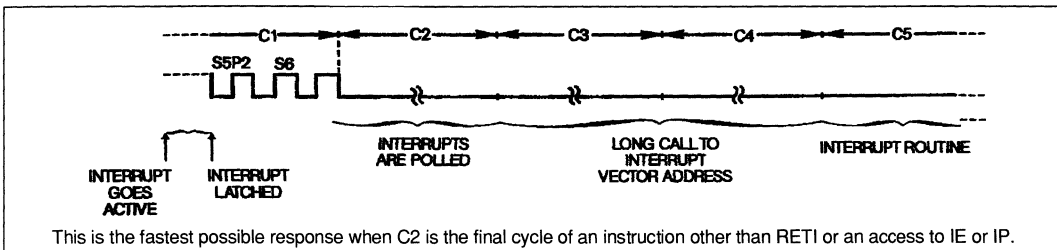

Figure 37 : Interrupt Response Timing Diagram.
The polling cycle/LCALL sequence is illustrated in figure 37.
- Note that if an interrupt of higher level goes active priority to S5P2 of the machine cycle labelled C3 in figure 37 then in accordance with the above rules it will be vectored to during C5 and C6, without an instruction of the lower priority routine having been executed.
The $\overline{INT0}$ and $\overline{INT1}$ levels are inverted and latched into IE0 and IE1 at S5P2 of every machine cycle. The values are not actually polled by the circuitry until the next machine cycle. If a request is active and conditions are right for it to be acknowledged, a hardware subroutine call to the requested service routine will be the next instruction to be executed. The call itself takes two cycles. Thus, a minimum of three complete machine cycles elapse between activation of an external interrupt request and the beginning of execution of the first instruction of the service routine. Figure 37 shows interrupt response timings.